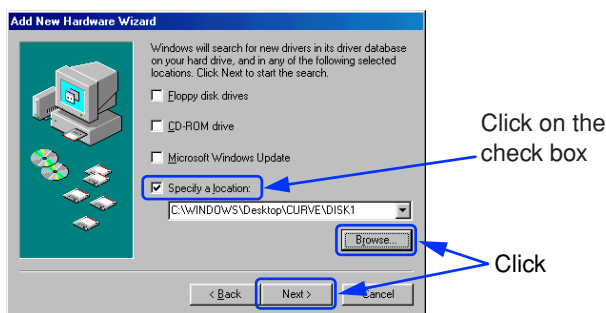

Fig. 2
- ⑥ Click on the check box [Specify a location:] and click [Browse...]. Specify [Driver] folder of the supplied CD-ROM and click [Next >]. (Fig. 2)